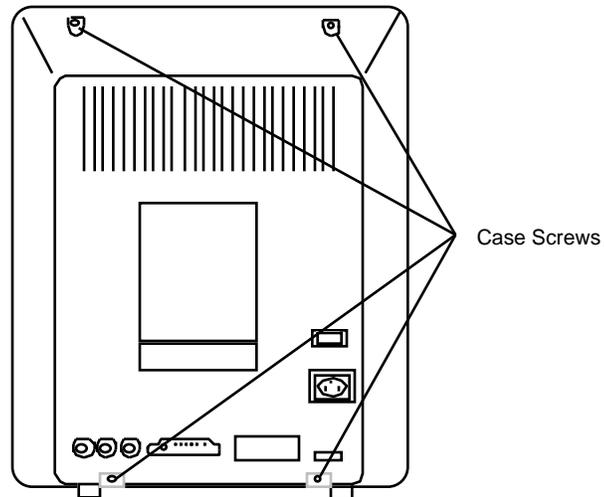

FIGURE 1
3. Remove the four case screws (**Figure 1**) from the rear cover.
2. Slide the rear cover onto the bezel, and replace the four case screws (**Figure 1**) .